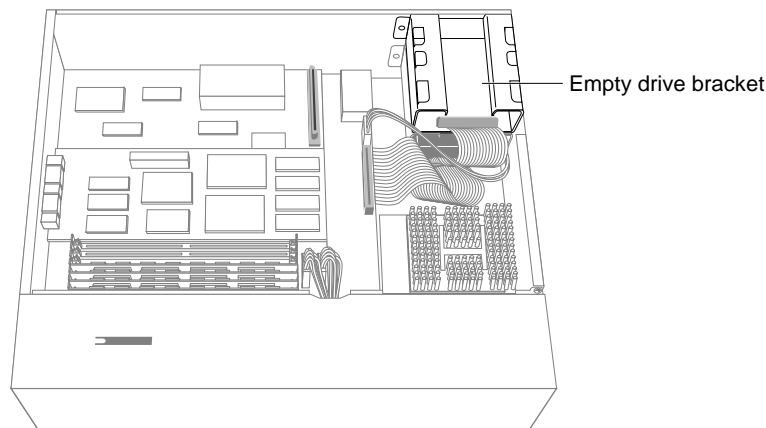

Figure 5-1 Locating the Drive Bracket Above the System Drive
5. Move the system or position yourself so that the power supply is close to you and the system drive and empty drive bracket are in the upper right hand corner, as shown in Figure 5-1.